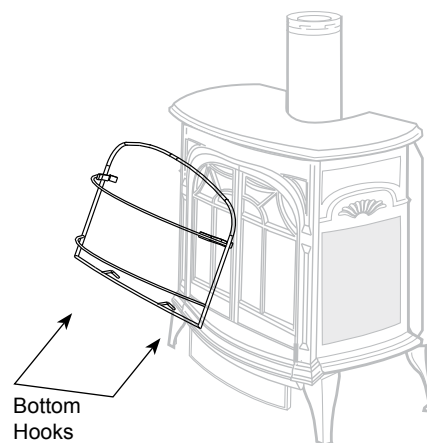

Figure 54 Install safety barrier screen.
2. Place the two bottom hooks over the bottom edge of the stove opening Figure 54